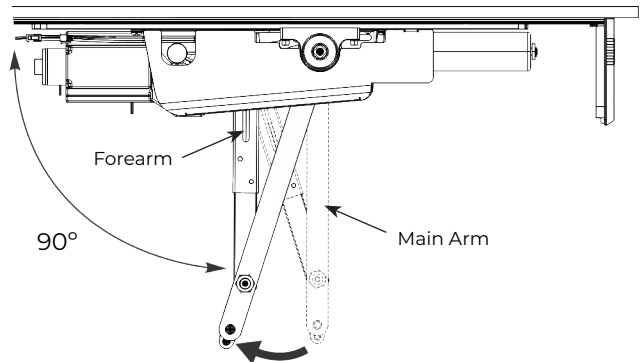

Figure 30 View from ceiling looking downward
5. With door closed, rotate main arm away from hinge until forearm is perpendicular (90 degrees) with door. (Figure 30)